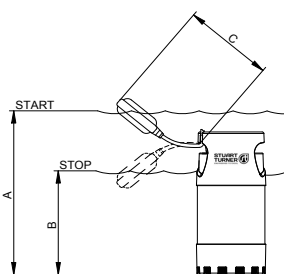

Fig. 5 Min. Float Switch Movement
2.22 If modification of the level setting is required refer to Figures 5 and 6 and the following chart.
Note: It is not possible to empty the sump completely, a minimum depth must remain (Figs. 5 & 6).